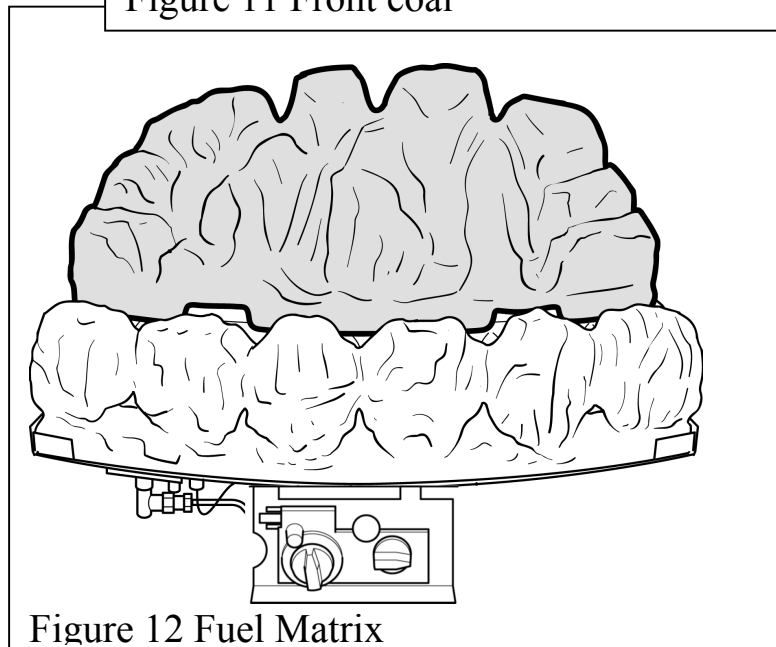

Figure 12 Fuel Matrix
2. Remove the fuel matrix from its protective packaging and position on top of the burner as shown in figure 12. The bottom of the matrix rear wall should drop behind the two square flanges at the top of the rear legs. Ensure that the matrix sits flatly on the top of the burner.